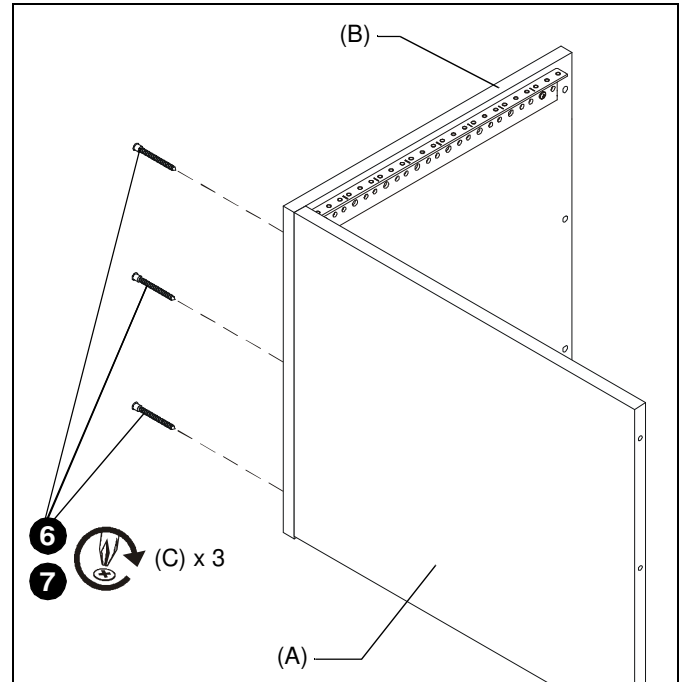

Figure 2
5. Place one top/bottom (A) piece standing up on its edge next to one of the side panel (B) pieces. (See Figure 2)
6. Install one 7mm x 50mm wood screw (C) into pre-drilled hole on side panel. Fasten the screw all the way into the panel but leave somewhat loose until all screws are installed. (See Figure 2)